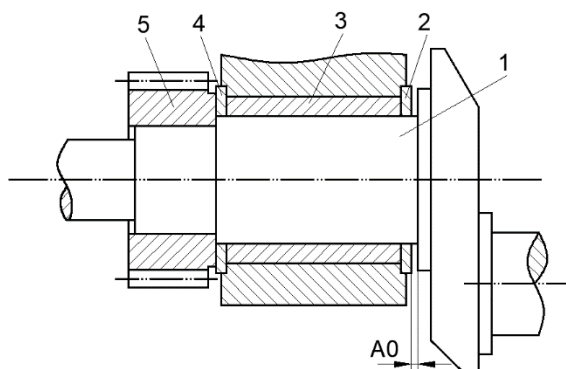

Figure 3
8. Figure 3 is the assembly diagram of the first principle axis journal of the crankshaft and the bearing pedestal. 1 is the crankshaft, 2 and 4 are thrust washers, 3 is the mainshaft bearing of the cylinder and 5 is the timing gear. Design requirements: the assembly gap between the journal and shoulder of the first principle axis and the thrust washer is $A_0 = 0.05 \sim 0.25\text{mm}$. Design requirements: $A_1 = 43.5\text{mm}$; $A_2 = A_4 = 2.5\text{mm}$; $A_3 = 38.5\text{mm}$. The assembly method of complete interchange is to be used, to ensure assembly precision. (20 points)